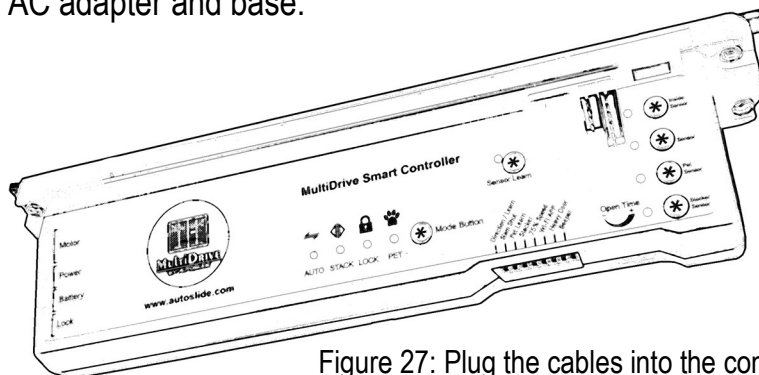

Figure 27: Plug the cables into the controller at the corresponding ports on the left.
7. Plug the six-wire motor cable into the controller (Figure 27) in a socket labeled **Motor**.
8. Plug the two-wire motor cable into the controller (Figure 27) in a socket labeled **Lock**.
9. Plug the AC adapter cable into the controller (Figure 27) in a socket labeled **Power**.